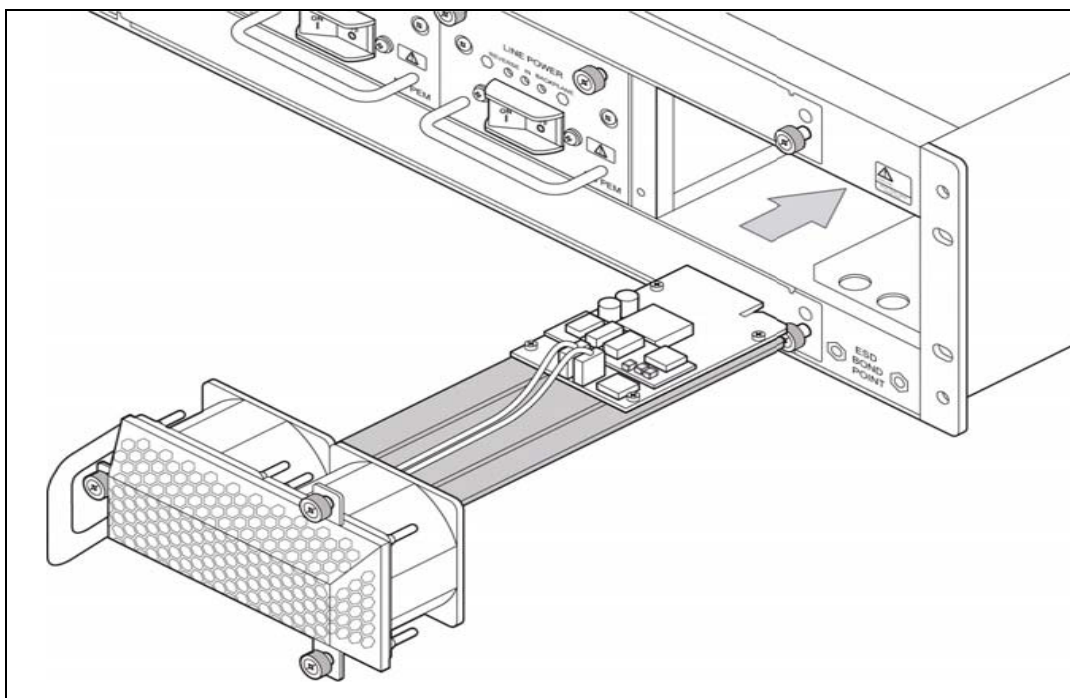

Figure C.7 - Front Fan Tray (Front)
5. Take the replacement fan tray and insert it into the shelf (see **Figure C.7**).